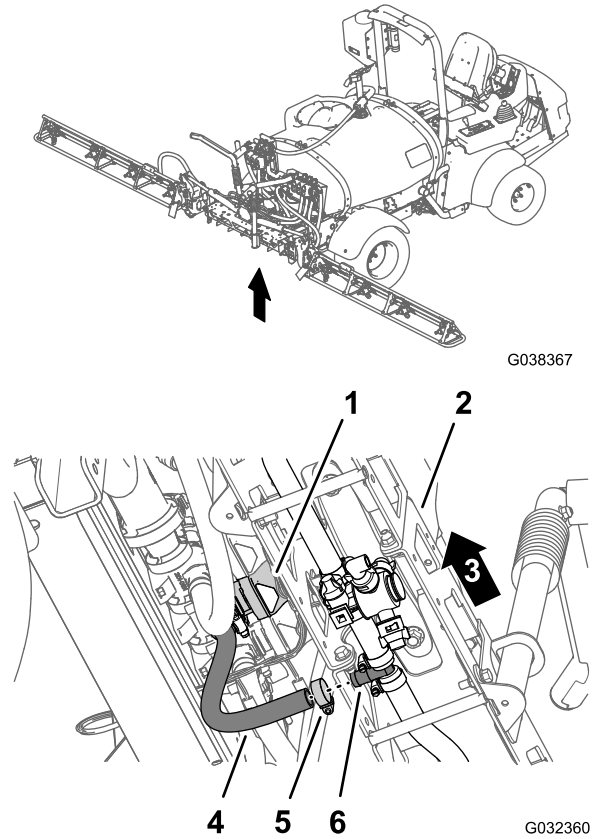

Figure 15
5. Under the center-boom section, remove the hose clamp that secures the supply hose for the boom section to the barbed T-fitting (Figure 15).